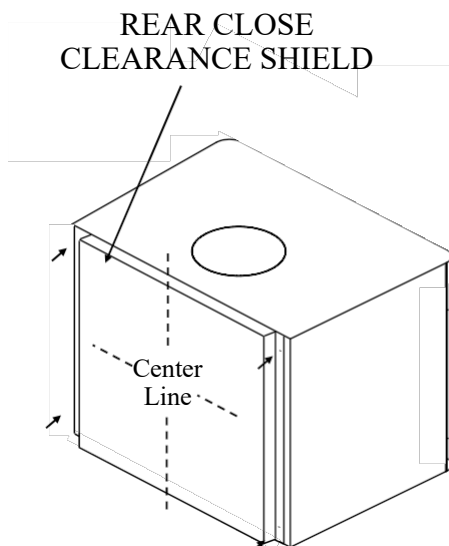

FIGURE 20
1. Center rear close clearance shield with back of stove. Mark back of stove, using holes in rear shield as reference. Drill pilot holes using a 1/8 drill bit. Using self-tapping screws, secure back shield to back of stove (See figure 20).